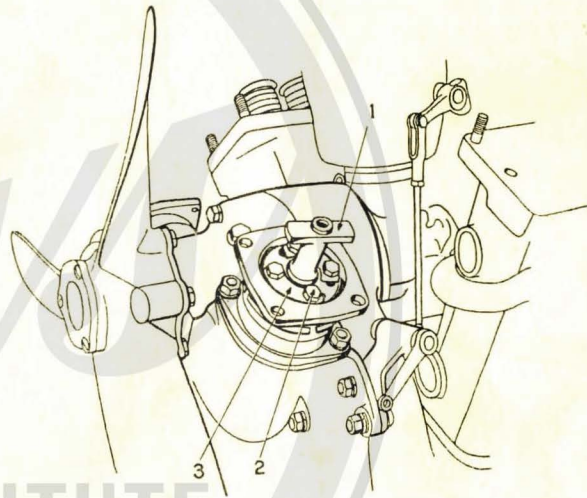

Fig. 4—Left Coupling Position
E. When the gear and pinion (L H) have been unmeshed, set the camshaft so No. 5 intake cam points as indicated in Par. C-1-a above. Then mesh the pinion with the gear in such a way that the drive shaft slot points almost straight front and rear, as shown in No. 1, Fig. 4.